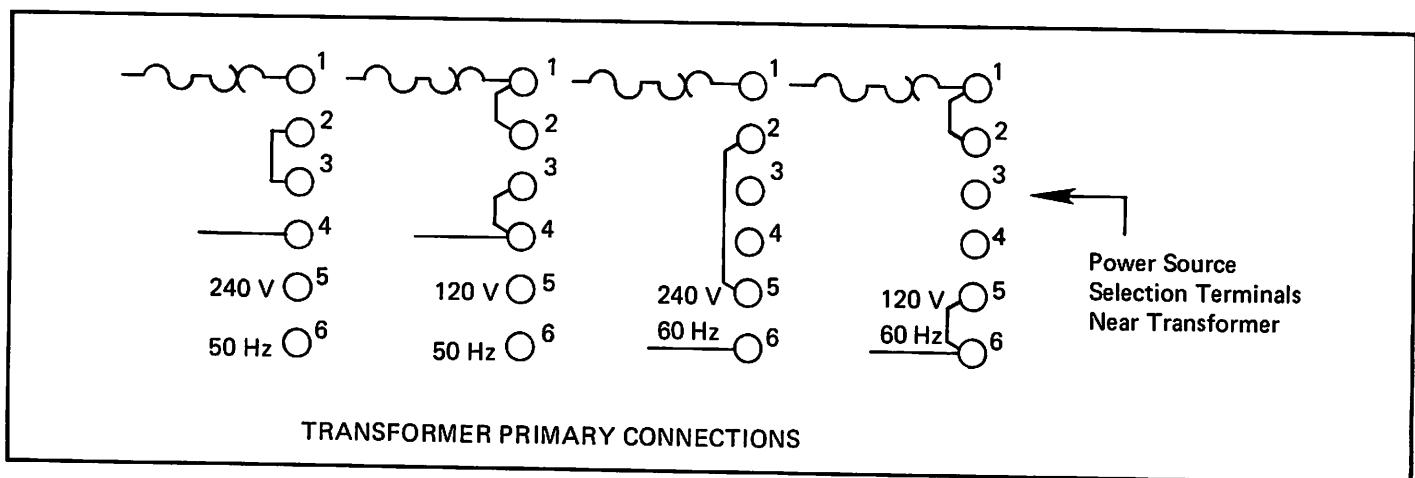

FIGURE 1 — Voltage Source Selection for Type NPSI03/04 Power Supplies
3. Change jumper positions for desired input voltage and frequency. Refer to Figure 1 which shows jumper positions.